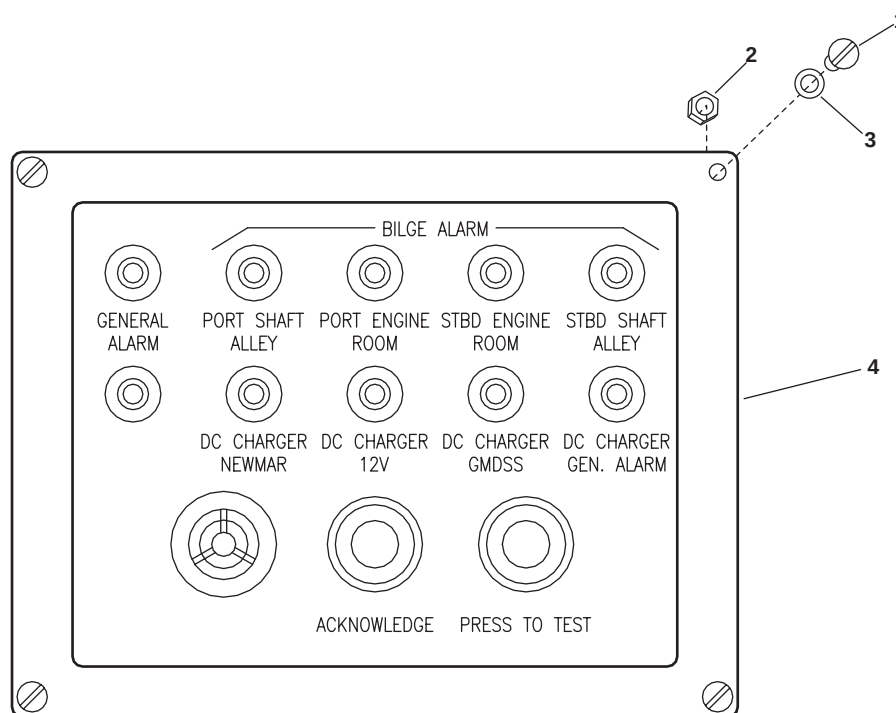

Figure 10. Pilothouse Alarm Console
2. Remove the four screws (figure 10, item 1), four nylock nuts (figure 10, item 2), and four nylon washers (figure 10, item 3) that secure the pilothouse alarm panel (figure 10, item 4) to the port main console. Remove the alarm panel from the port main console.
4. Position the pilothouse alarm panel (figure 10, item 4) on the port main console and secure it with four screws (figure 10, item 1), four new nylock nuts (figure 10, item 2), and four nylon washers (figure 10, item 3).
2. Remove the four screws (figure 10, item 1), four nylock nuts (figure 10, item 2), and four nylon washers (figure 10, item 3) that secure the alarm panel (figure 10, item 4) to the port main console. Remove the alarm panel from the port main console.
5. Position the pilothouse alarm panel (figure 10, item 4) on the port main console and secure it with four screws (figure 10, item 1), four new nylock nuts (figure 10, item 2), and four nylon washers (figure 10, item 3).
3. Position the pilothouse alarm panel (figure 10, item 4) on the port main console and secure it with four screws (figure 10, item 1), four new nylock nuts (figure 10, item 2), and four nylon washers (figure 10, item 3).
Pump Unit, Rotary (Item 3, Figure 10, WP 0297 00, Volume 2)